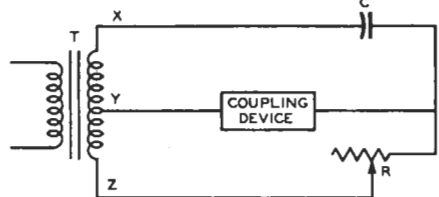

FIG. 3
Figure 3 shows the basic phase-controlling network. A transformer (T) has a center-tapped secondary winding connected to the coupling device. If the center-tap (Y) is used as a zero point, the voltage on one side (X) is, of course, 180° out of phase with the voltage on the other side (Z). Then, if the resistance (R) is high compared with the reactance of the capacitor (C), the coupling device is effectively connected across the upper half of the secondary (XY), and the voltage across it is in equal phase. But if the resistance (R) is low compared with the reactance of the capacitor (C), the coupling device is effectively connected across the lower half of the transformer secondary (YZ), and the voltage across it is now of reversed phase. In this position, the capacitor (C) is connected across the entire winding (XZ), but its reactance is high compared with the reactance of the transformer secondary, and no ill effects are produced. Intermediate values of resistance (R) will cause intermediate phase differences across the coupling device, and will provide the control that is so desirable.